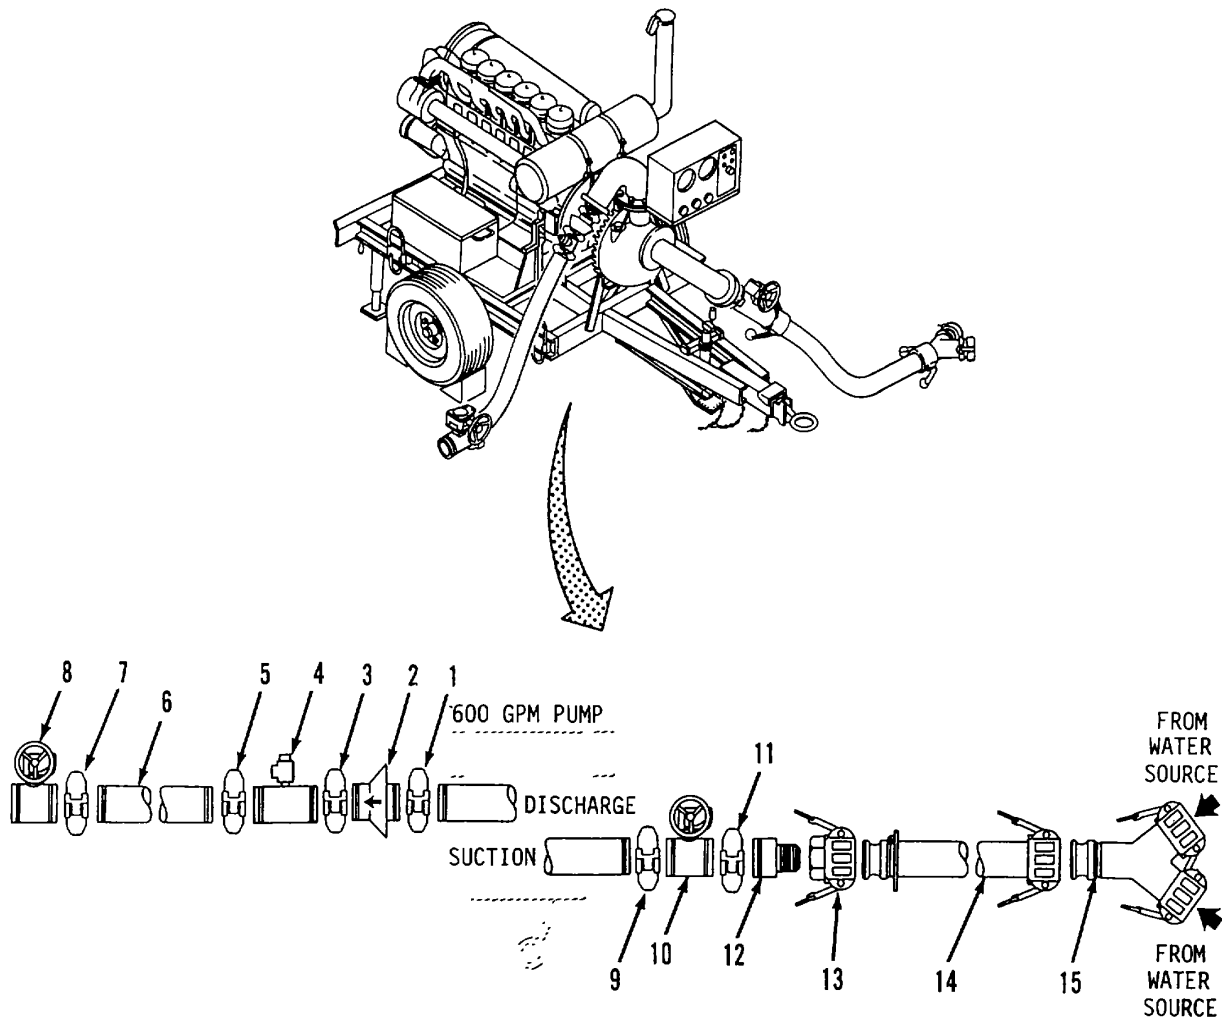

Figure 2-15. Lead Pumping Station Assembly.
- f. Assemble Lead Pumping Station. Refer to figure 2-15.